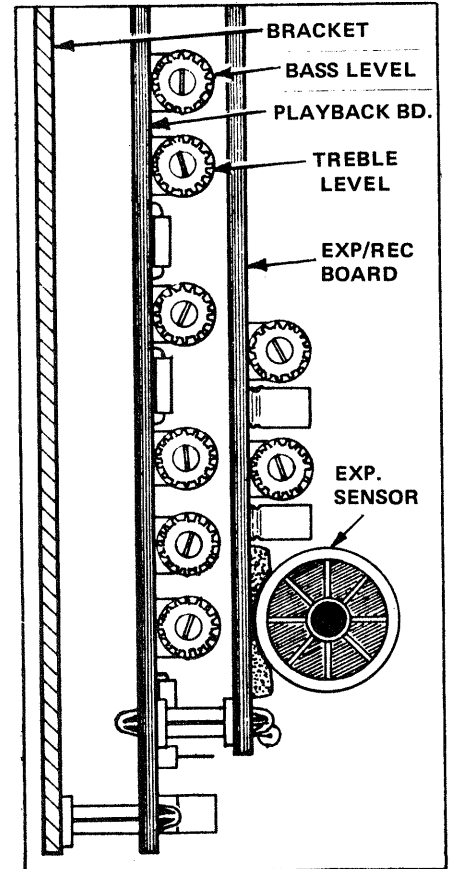

FIGURE 9-13 Playback Board Controls.
Push the ⑩ PLAY Button and replay Program 7. Adjust the Bass Level and Treble Level Controls on the Playback PC Board (see FIGURE 9-13) so each note is played as SOFTLY as possible yet provide a definite strike as the Key is played the five (5) times in succession. See the CAUTION below.